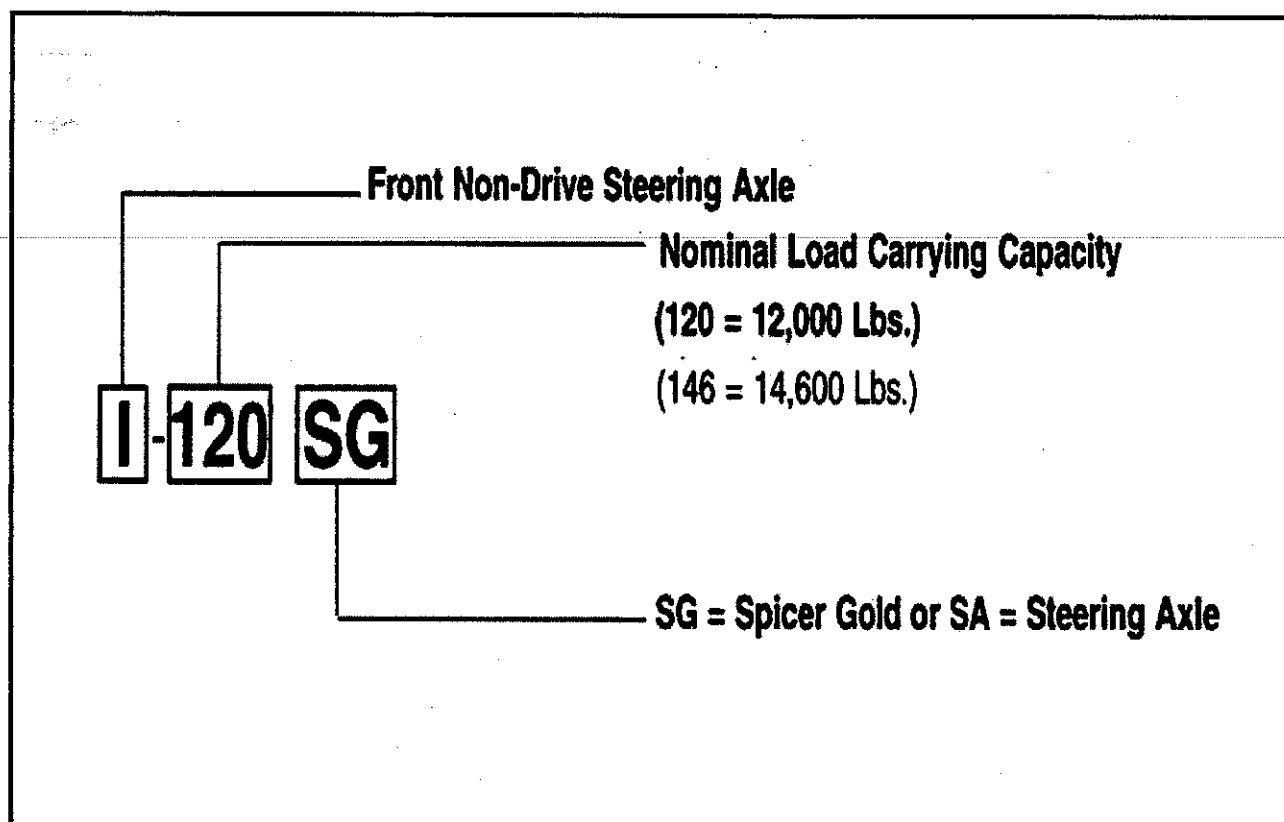

Figure 2—Model Identification Numbering System
- See Figure 2—Model Identification Numbering System